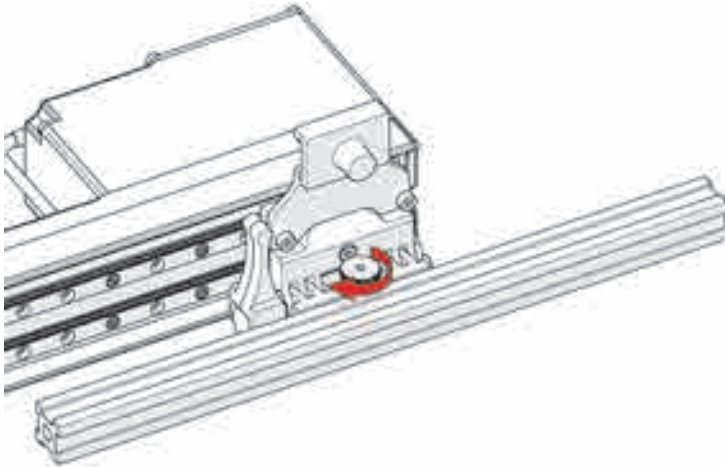

Figure 4-106 Mount frame bar
5. Mount a frame bar to the raster arm pivot nose (see Figure 4-106 on page 170).